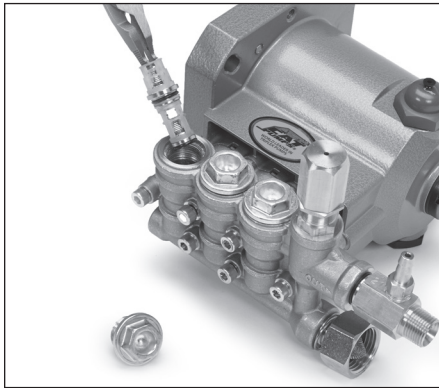

Figure 1
1. Use a M19 hex tool to remove three (3) valve plugs (Model 4DX03ELR has [2] valve plugs).
3. Use a reverse pliers to remove stacked valve assembly from each valve chamber (See Figure 1).